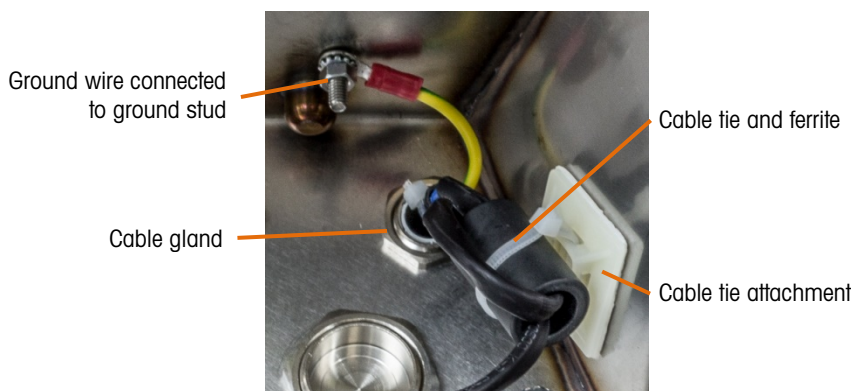
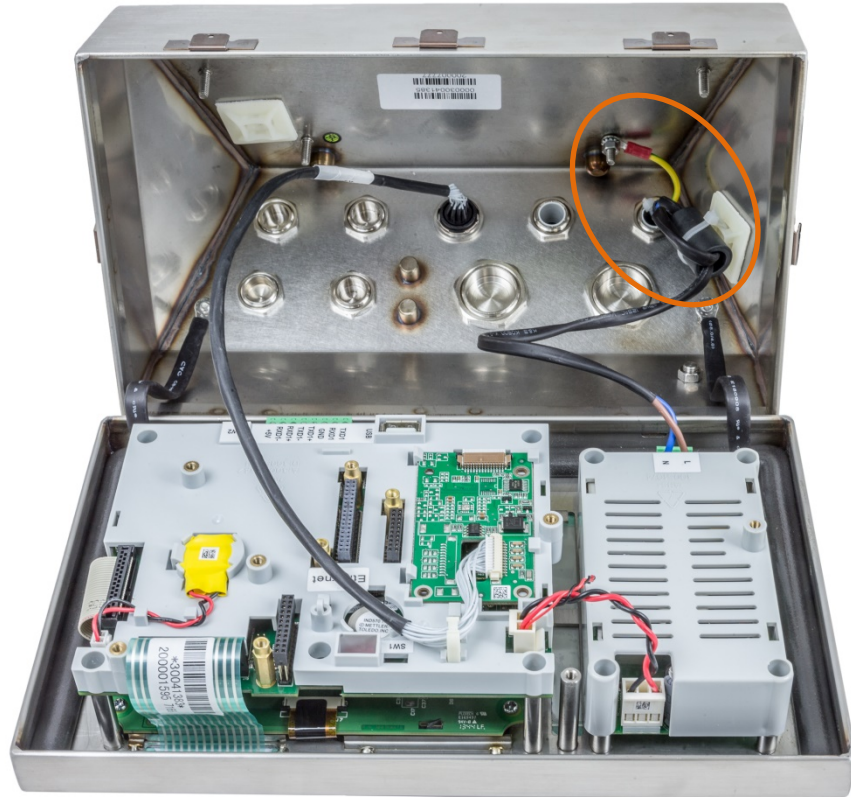

Figure 2-16: Reversed Location of Power Cord
Figure 2-17: Front Panel and Load Cell Connection Reversed
- g. Carefully rotate the rear housing 180 degrees and reattach the two grounding straps to the two studs near the grip bushings, using the two nuts removed in the previous step. Tighten the two nuts. Figure 2-17 shows the straps reconnected.
- h. Remove the blank from the location circled in Figure 2-17. Install the gland and power cord in that location, and tighten the nut on the gland.
- j. Install the ferrite on the power cable, taking one turn as shown in Figure 2-16.
- k. Adhere the cable tie attachment to the enclosure at the location shown in Figure 2-16 and Figure 2-17. Cable-tie the ferrite in place, and cut off any excess length from the tie.
- m. Tighten the cable gland. Figure 2-17 shows the completed assembly.